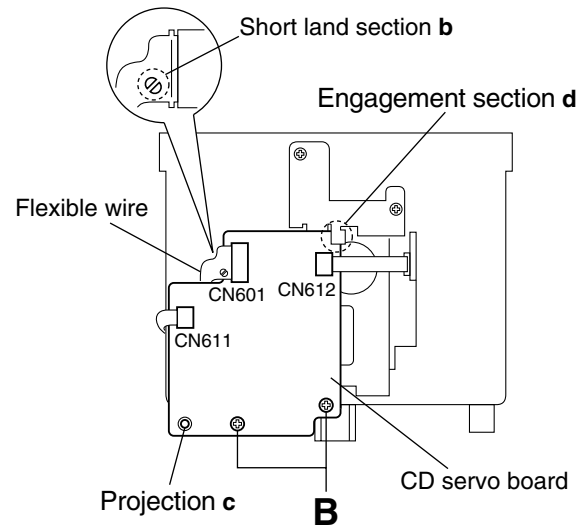

Fig.3
■ Removing the CD servo board (See Fig. 3.)